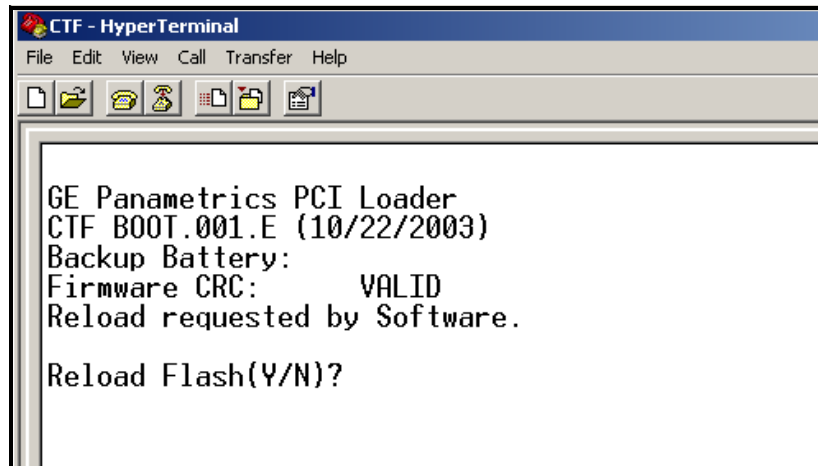

Figure 2-10: Flash Reloading Window
2. The meter asks for confirmation. Repeat the options shown in Step 1 above. The screens on both the PC and the CTF878 now appear similar to Figure 2-10 below.